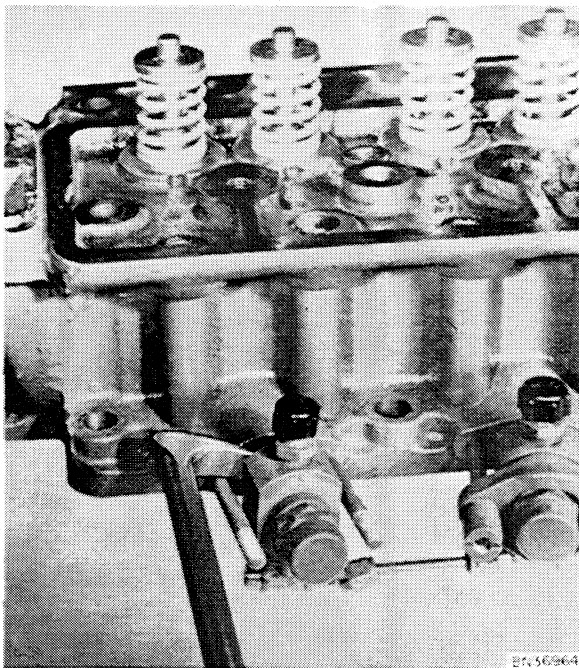

Figure 16 - Removing Fuel Injector
6. Remove the injection nozzle assemblies by removing the slotted nuts and clamps and pull the nozzle holder as shown in Figure 16. See section R on page III - 42